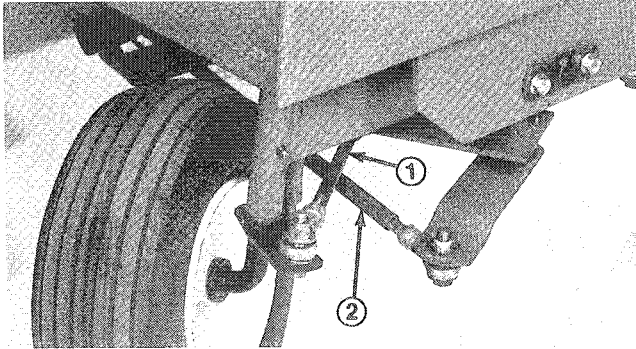

Figure 19
2. Check clearance between left tire and tie rod (Fig. 19). There should be 1 inch  $\pm$  1/4 inch clearance at this position.